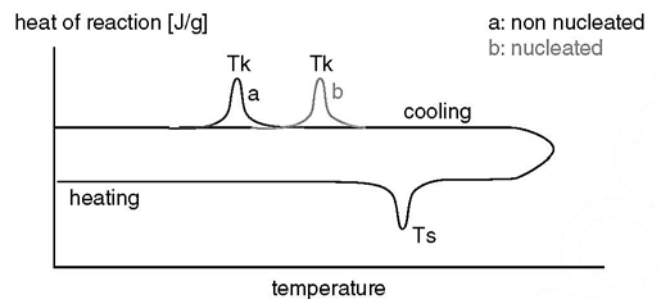

Figure 36.16 Nucleating effect (Courtesy of Borealis AG)
- Changed crystalline behavior (Figure 36.16)